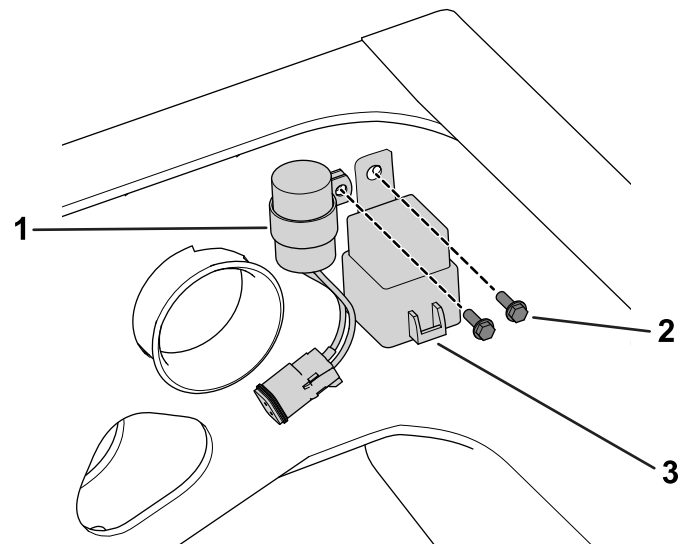

Figure 3
2. Use 2 screws to install the timer module and relay to the holes in the front plate (Figure 3).